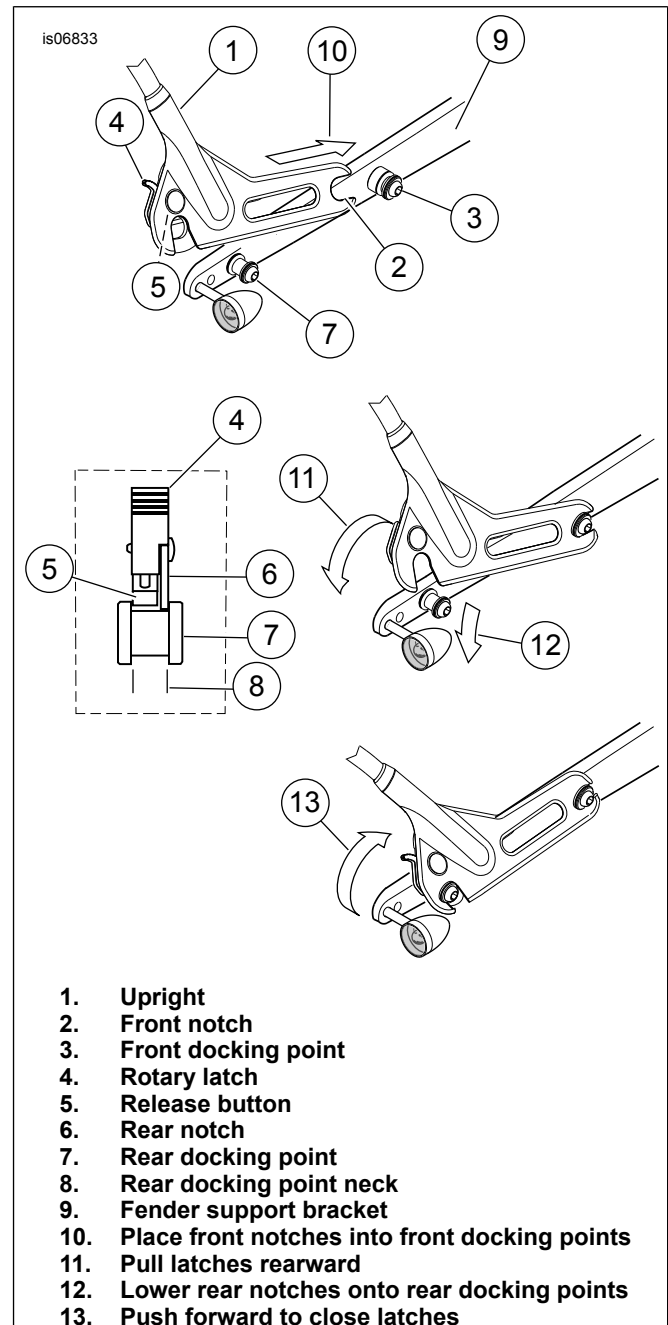

Figure 1. Detachable Upright
1. See Figure 1. Stand behind the motorcycle, and place (10) the front upright notches (2) into the front docking points (3).
- See Figure 1. Pull (11) the rotary latches (4) into to the rearward position. Align the latches over the rear docking points (7). Make sure the latches and rear notches (6) fit into the neck (8) of the rear docking points.